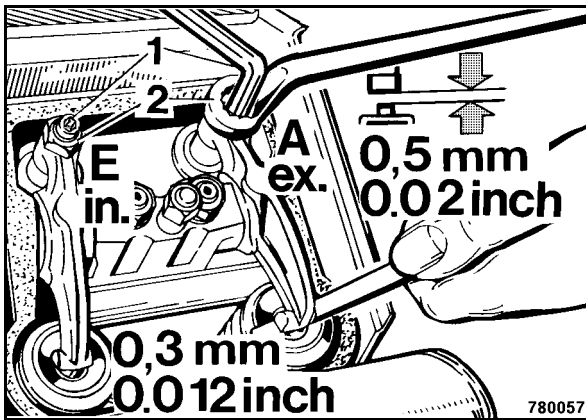

Fig. 83
- Loosen the counter 2 (Fig. 83) and regulate the setscrew (1), until the feeler gauge can be inserted and pulled out with little resistance after retightening the counter nut.